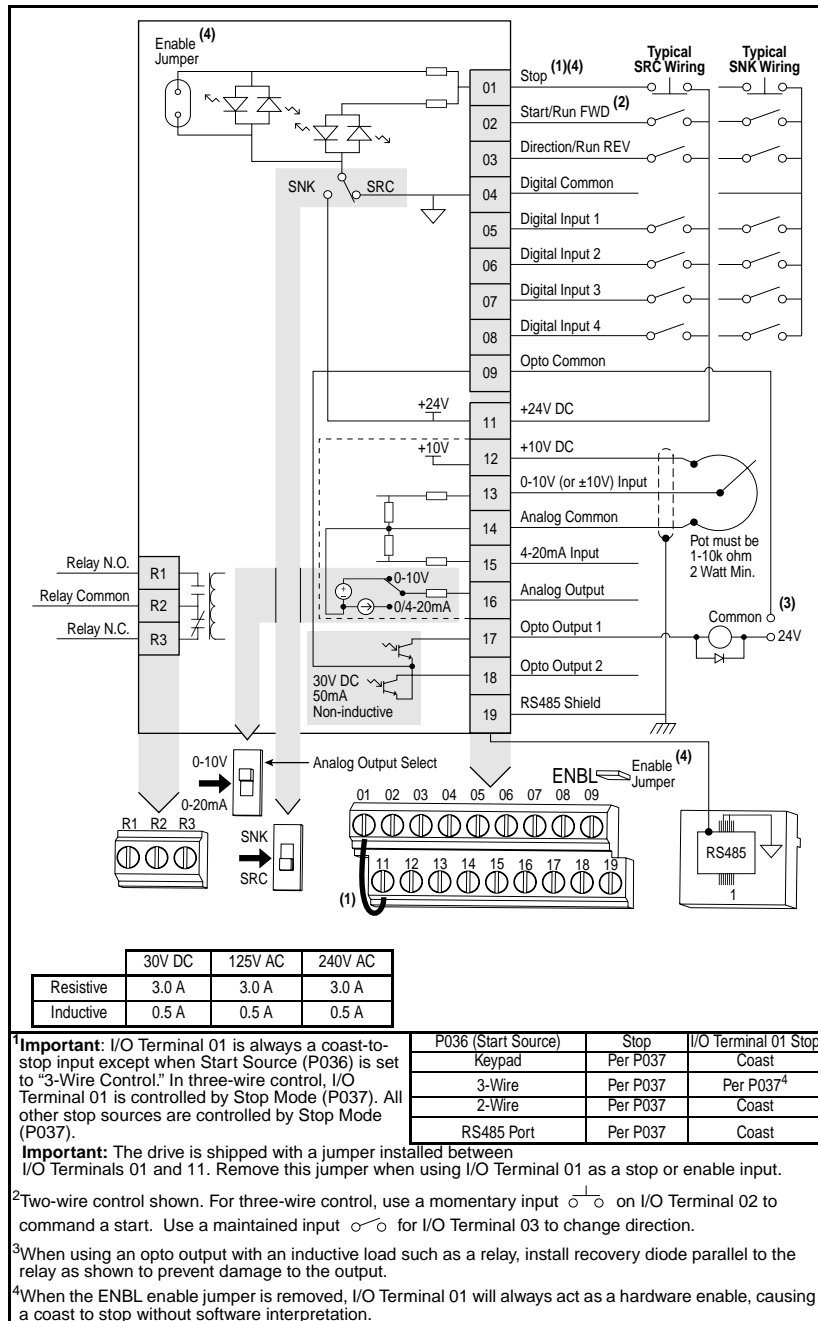

Figure 6.1 – Control Terminal Block
Terminal block connections are detailed in figure 6.1.
- Verify that the Sink (SNK)/Source (SRC) Setup DIP Switch is set to match your control wiring scheme. See figure 6.1 for the location of this switch.